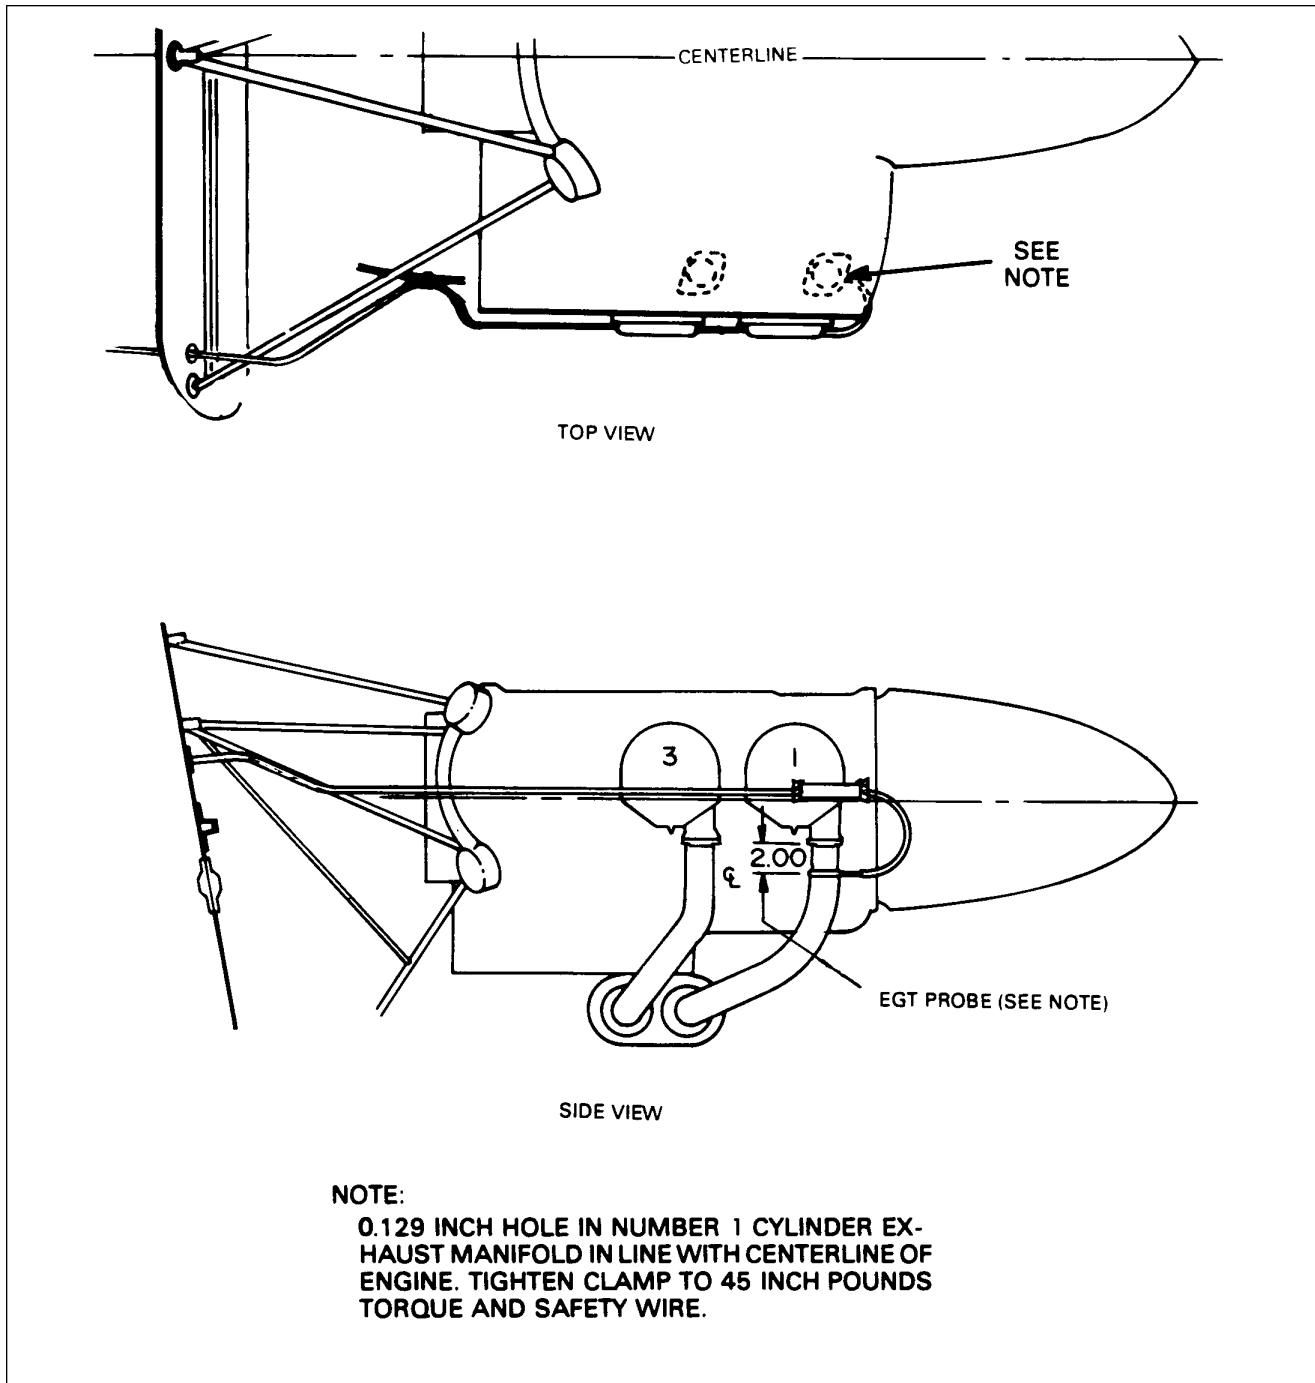

Figure 10-10. Exhaust Gas Temperature Probe Installation
- b. To install EGT probe and gauge (Refer to Figure 10-10):